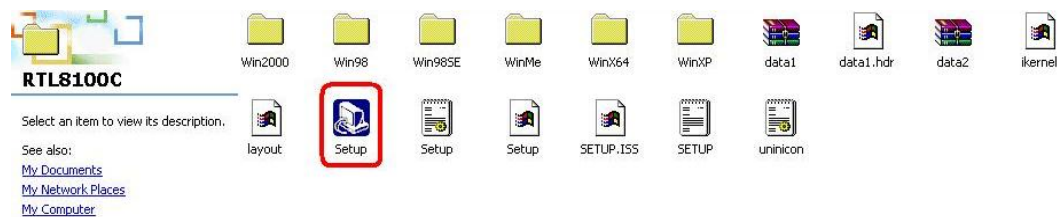

Figure 7-25: Locate the Setup Program Icon
Step 3: Locate the **Setup** program icon (**Figure 7-25**).
Step 4: Double click the **Setup** program icon in **Figure 7-25**.